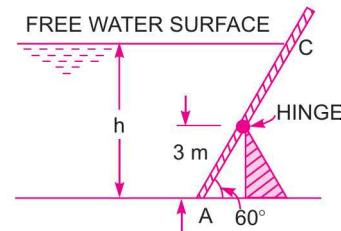

Fig. 3.24
**Problem 3.19** A gate supporting water is shown in Fig. 3.24. Find the height h of the water so that the gate tips about the hinge. Take the width of the gate as unity.